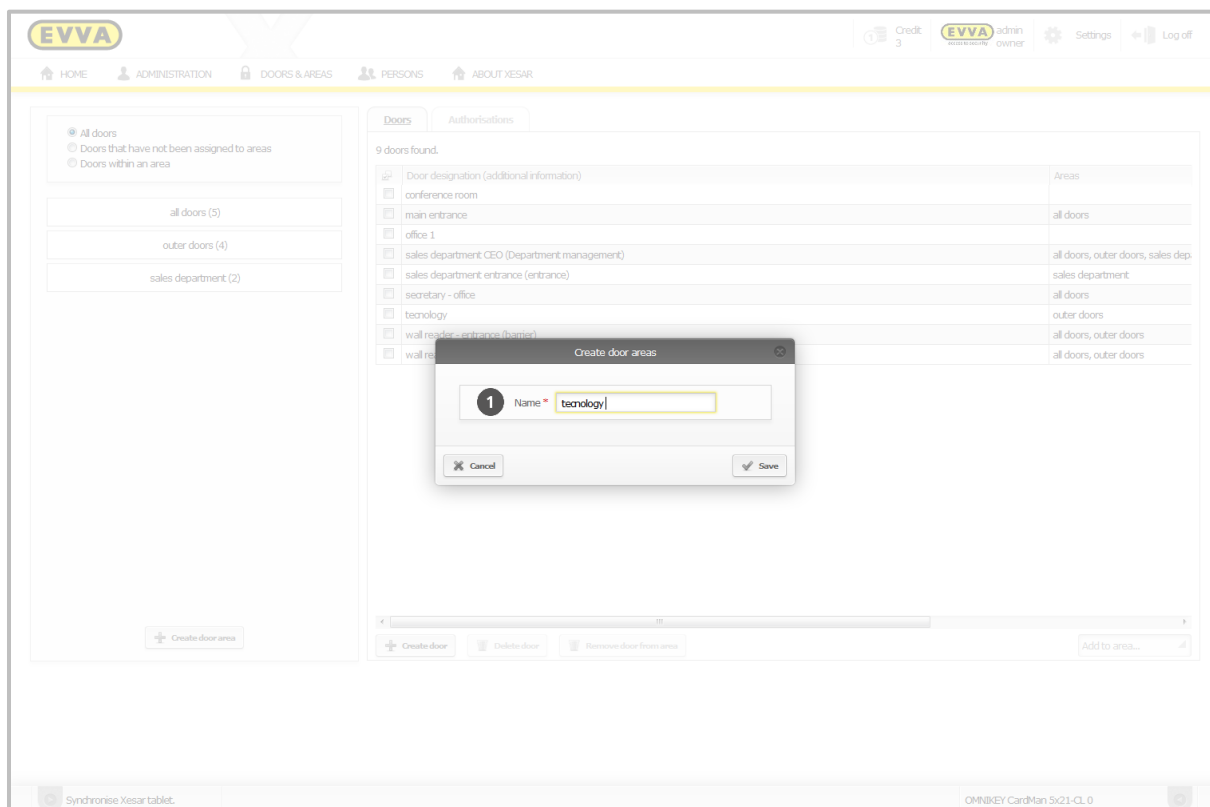

Figure 68: Creating new door areas
- Specify the **Name** of the door area ❶ (Figure 68: Creating new door areas).